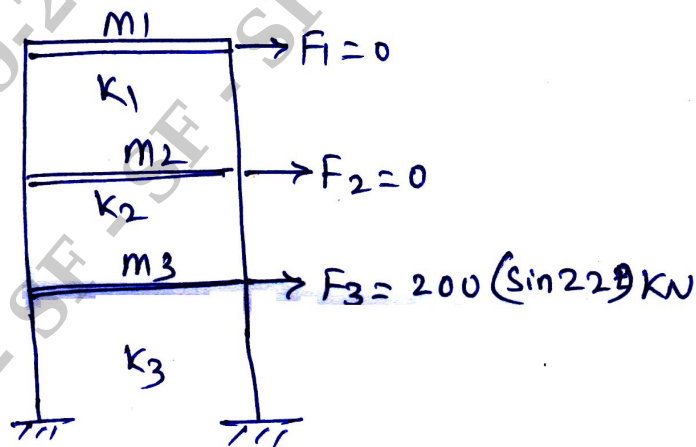

Fig.Q7
- 7 A three-storeyed shear building subjected to harmonic loading as shown in Fig.Q7. Compute the response, for a given results of free-vibration analysis. Neglect axial deformations in all structural elements. The mass of the floor; $M_1 = M_2 = M_3 = 20 \times 10^3$ kg. The stiffness of floor; $K_1 = K_2 = 160 \times 10^6$ N/m, $K_3 = 240 \times 10^6$ N/m. The natural frequencies are;